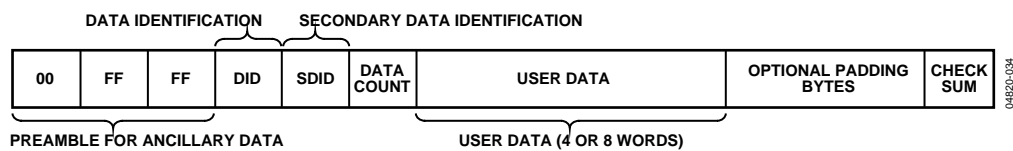

Figure 34. Gemstar and CCAP Embedded Data Packet (Generic)
- GDECAD configures the way in which data is embedded in the video data stream. The recovered data is not available through I2C, but is inserted into the horizontal blanking period of an ITU-R BT.656-compatible data stream. The data format is intended to comply with the recommendation by the International Telecommunications Union, ITU-R BT.1364. See Figure 34. For more information, see the ITU website at [www.itu.ch](http://www.itu.ch).
Each data packet starts immediately after the EAV code of the preceding line. See Figure 34 and Table 149, which show the overall structure of the data packet.